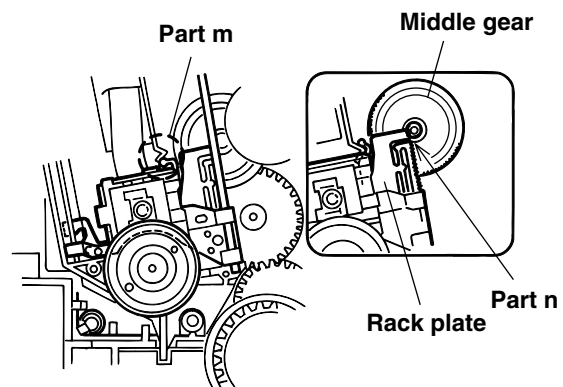

Fig. 16
3. Engage the hook **k** of the pickup assembly with the CH. base assembly first, and set the part **j** of the rack plate in the opening **l** next. Then, reinstall the pickup assembly while shifting it to the T-T side (inward) so that the part **m** of the rack plate is positioned as shown in Fig. 16.